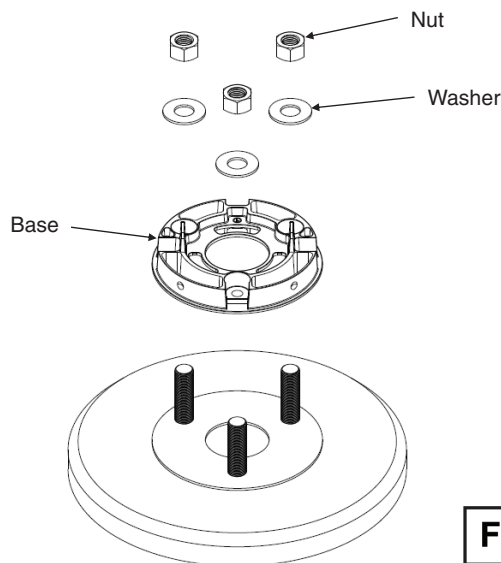

Fig. 3
4. Once the concrete is set, place the base plate onto the anchor bolts and secure it with the supplied nuts and washers (see **Fig. 3**).
6. Mount the fixture on the base, reconnect the orange quick-connect if necessary, and secure it with the four (4) set screws removed from the bottom of the fixture in step 3.